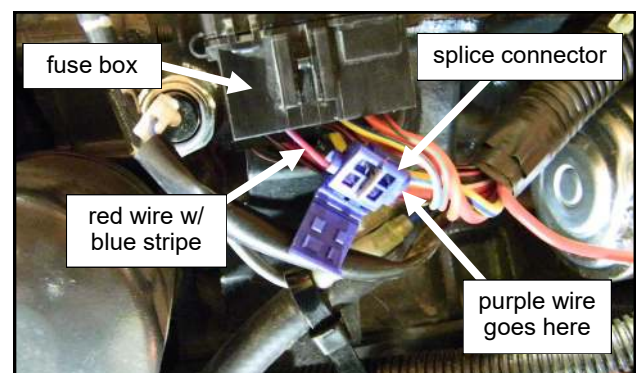

Fig. 9.6 (fuse box - left side of engine bay)
9.6 Slide provided splice connector onto red wire with blue stripe, cut purple wire to length and then insert into the single sided opening of the connector. Close the connector. See fig. 9.6.